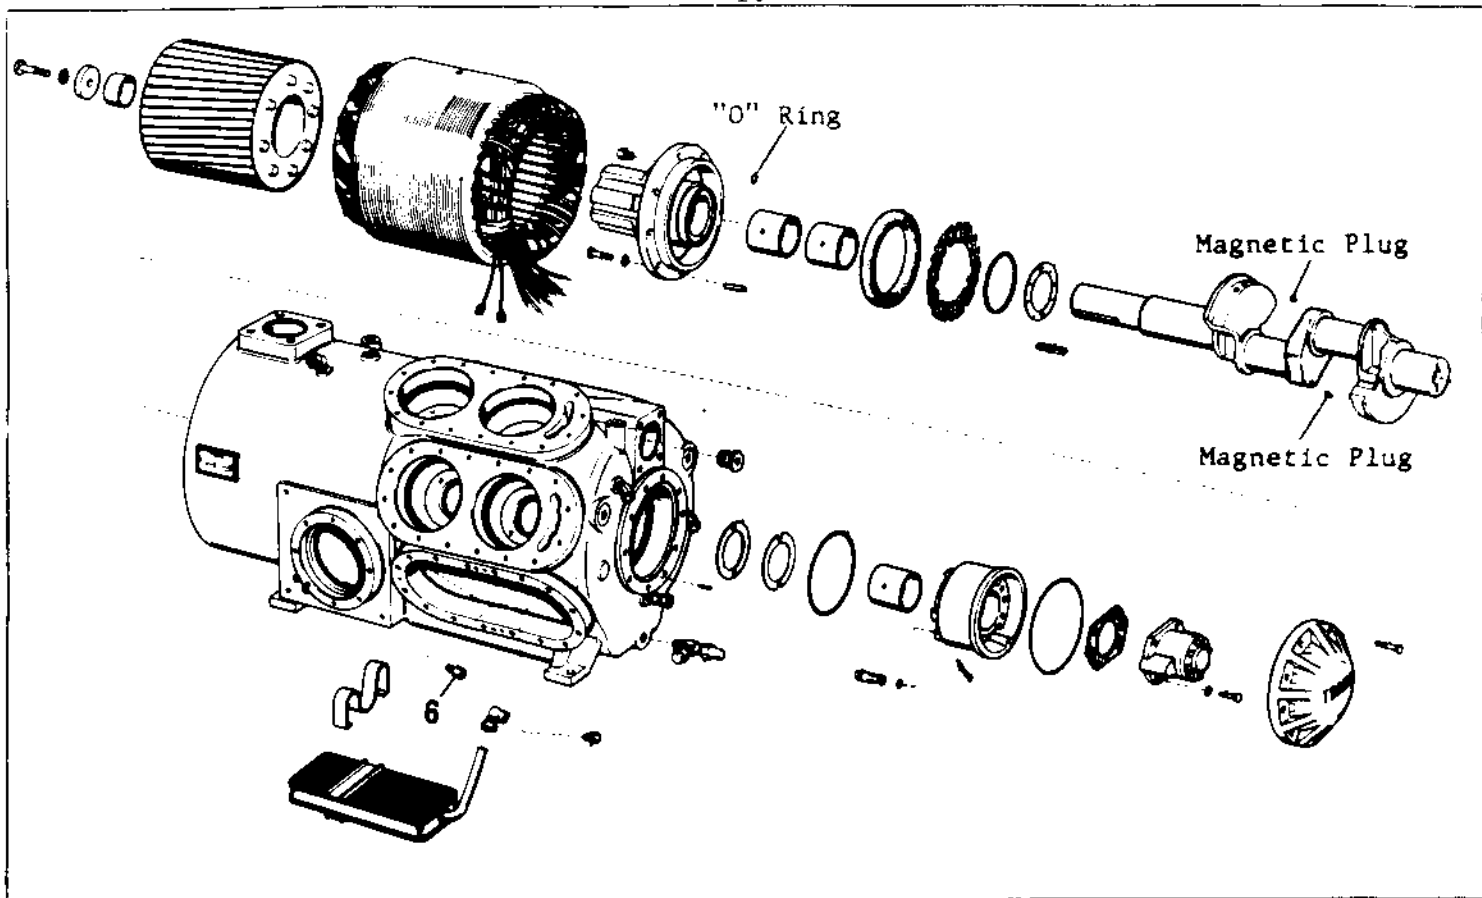

FIGURE 8 - Motor Bearing End, "O" Ring and Crankshaft Magnetic Plugs
- (1) Magnetic plug left out of the crankshaft. See Figure 8.
- (3) "O" ring left out between motor end bearing head and housing. The suction cover must be removed to observe excess oil flow. See Figure 8.